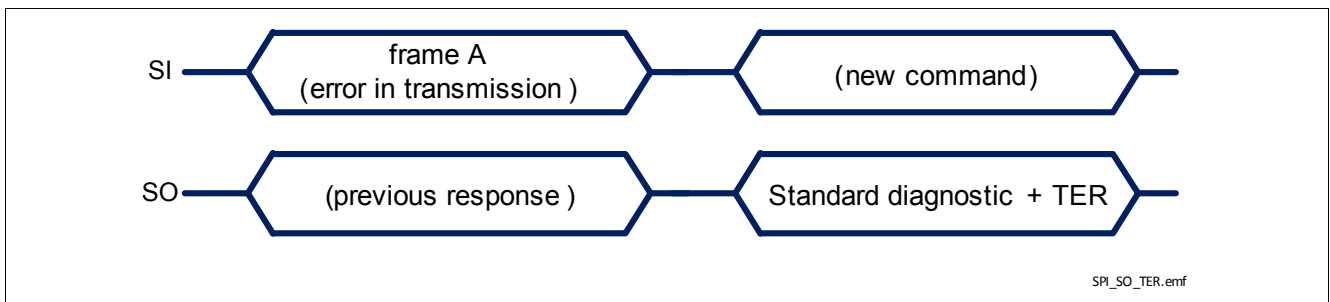

Figure 32 BTS54220-LBF response after an error in transmission
- in case an error in transmission happened during the previous frame (for instance, the clock pulses were not multiple of 8), shown in Figure 32